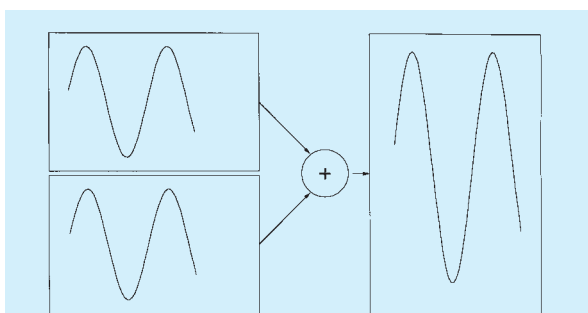
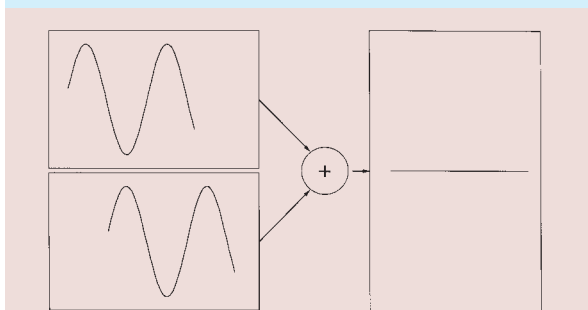

Figure 1: Perfect addition of in-phase sine waves.
Figure 2: Perfect cancellation of two sine waves offset by half a cycle.
Let's start by considering what happens when you combine two sine waves using a simple mixer. As you might imagine and as you can see in Figure 1 (right, top), adding together two identical waves produces the same sound, but louder. But what happens if you start the lower wave halfway through the cycle of the upper one? Figure 2
► (below Figure 1) shows that, if you add these waves together, they cancel each other out, and you hear nothing. Although, in isolation, these signals would sound identical, combining them results in silence.
Of course, you can mix sine waves with any offset (ie. any phase difference) and the amplitude of the result will lie somewhere between the 'double' loudness of Figure 1 and the silence of Figure 2 (if, instead of combining the signals in mono, you play the waves independently through stereo speakers, you'll get a quite different result. But that's a topic for another day, and we won't discuss it further here).